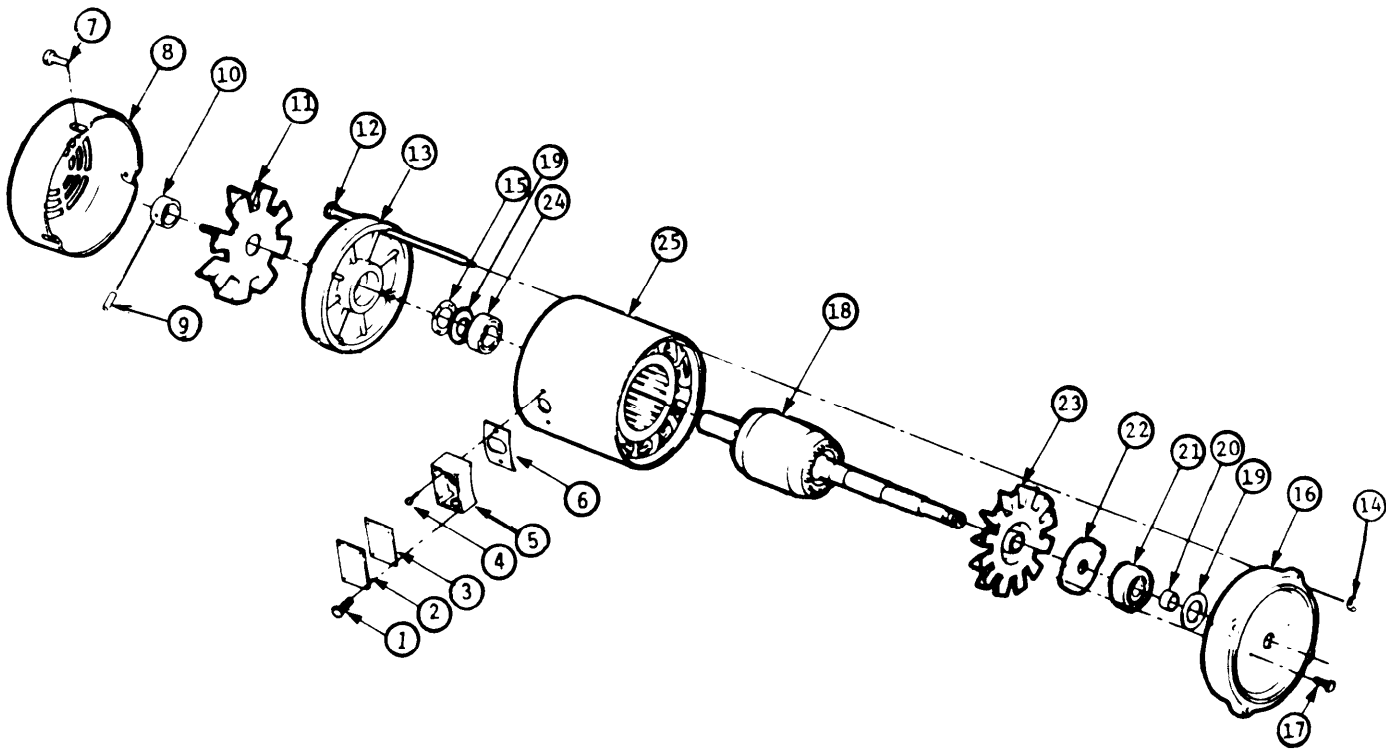

Figure 3-5. Distribution/Booster Pump Motor Assemblies
3-10. DISTRIBUTION/BOOSTER PUMP MOTOR ASSEMBLY. (Figure 3-5)
- (6) Move motor into shop.
- (7) Remove pump from motor in accordance with paragraphs 3-34 or 3-36.
- (8) Remove four screws (1) from conduit box (5) (figure 3-5) gasket (3), and conduit box cover (2) and discard gasket (3).
- (9) Remove three bolts (4) from motor casing (25), gasket (6), and conduit box (5) and discard gasket (6).
- (10) Remove three screws (7) from fan-end plate (13) and fan cover (8).
- (11) Remove fan cover (8) from fan-end plate (13).
- (12) Loosen set screw (9) on fan-locking hub (10) and remove fan-locking hub (10) from rotor shaft (18).
- (13) Remove fan (11) from rotor shaft (18).
- (1) Press fan-end bearing (24) (figure 3-5) on rotor shaft (18).
- (2) Press internal fan (23) on rotor shaft (18).
- (3) Slide bearing cover plate (22) on rotor shaft (18).
- (4) Press pump-end bearing (21) on rotor shaft (18).
- (5) Press bearing-lock ring (20) on rotor shaft (18).
- (6) Install shim (19) on rotor shaft (18).
- (7) Carefully install rotor shaft (18) in pump-end plate (16).
- (8) install two screws (17) through pump-end plate (16) and bearing cover plate (22).